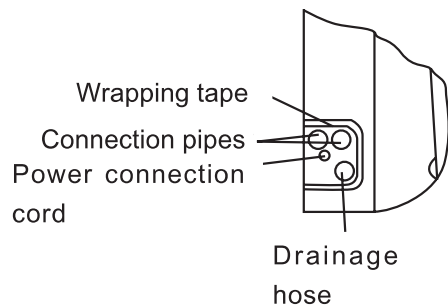

Fig. 5
2. Wrap the piping and wiring and pull them through the cut-off-tailings hole (Shown in Fig.5).